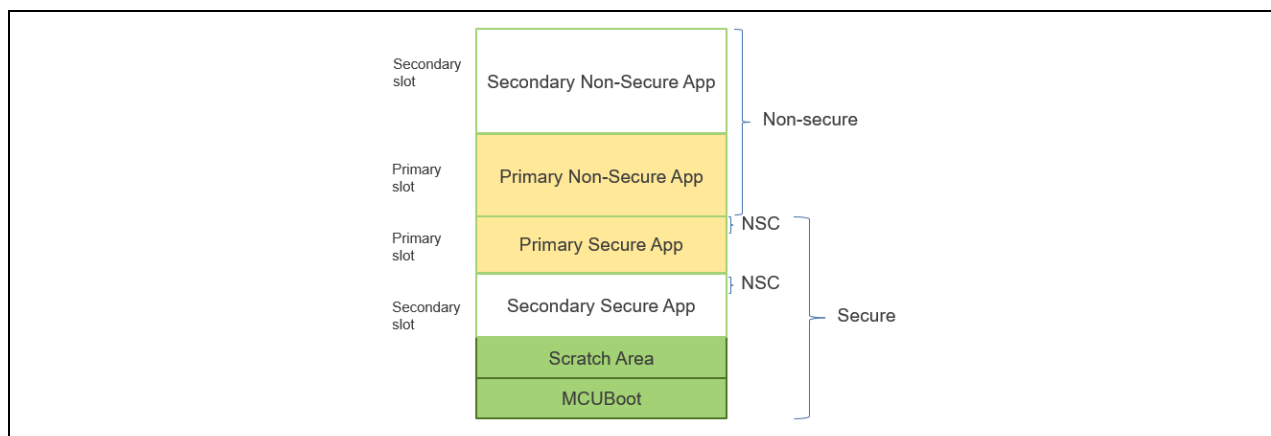

Figure 2. Two-Image MCUboot Module Memory Map (TrustZone)
For single-image projects, refer to Figure 1 from section 1.2.1 to see the default memory map layout. For applications with two separately updateable images, such as TrustZone applications where the Secure and Non-Secure images can be updated separately, the default memory map layout is shown in Figure 2.
- Develop the bootloader and analyze the MCU memory resource allocation needed for the bootloader and the application. The bootloader memory usage is influenced by the application image update mode, signature type, and whether to validate the Primary Image. The bootloader maintains a memory map of all the different images shown in Figure 1 and Figure 2.